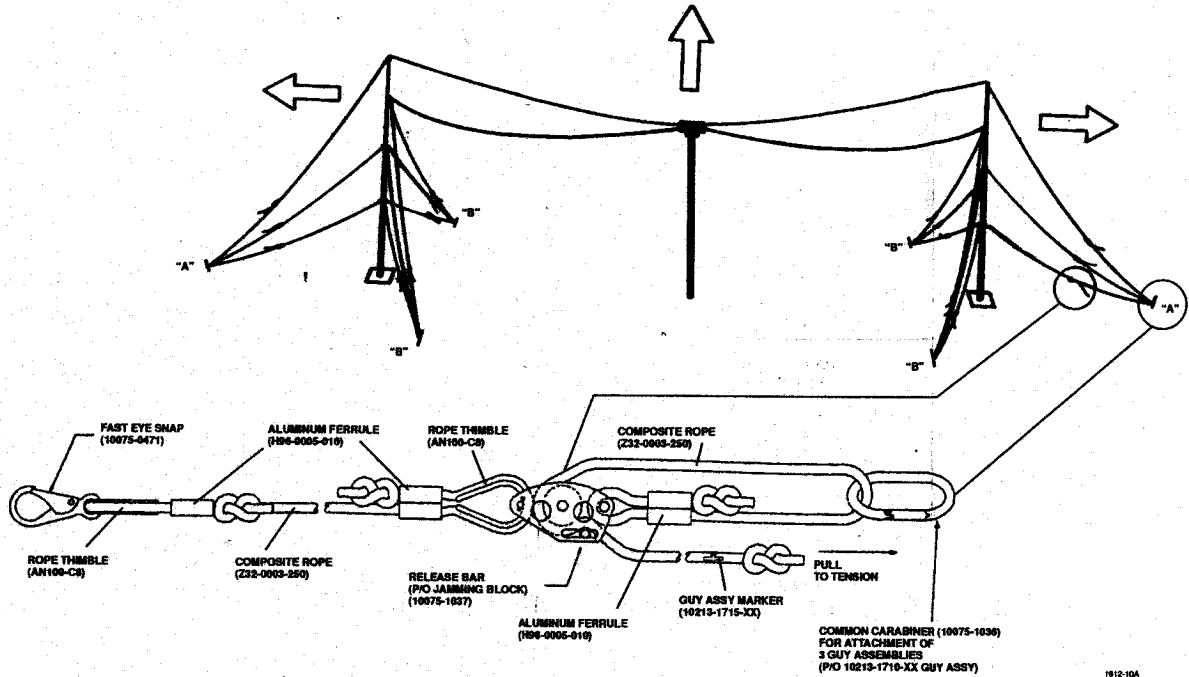
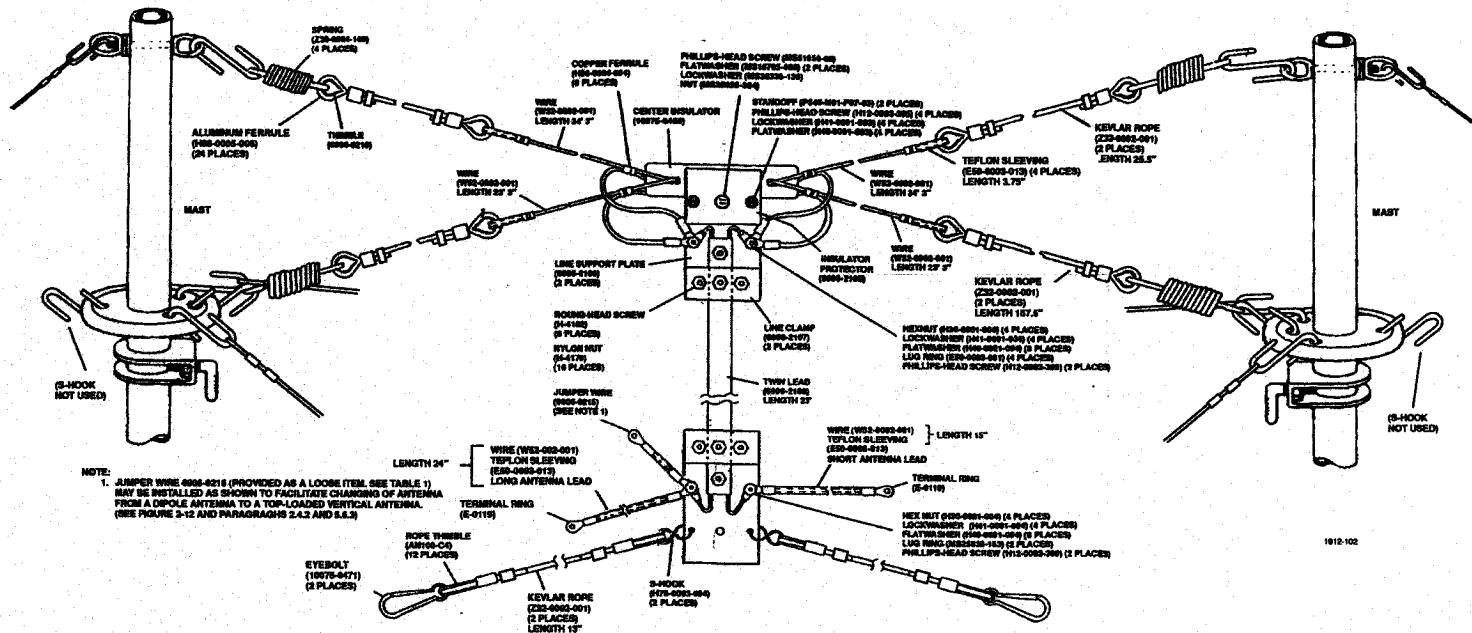

Figure 2-7. Guy Rope Tension Adjustment
Figure 2-8. Radiating Elements Attached to Masts
- 1. Unstow and carefully unwind the four Secondary Guy Assemblies (at points "B") and attach them to the masts, being sure to match the color and position (for Upper Guy attachment, see figure 2-8). Attach the common carabiners (see figure 2-7) to the guy stakes located at points "B".
- 2. Unstow and carefully unwind the two Primary Guy Assemblies (at points "A") and attach them to the masts, being sure to match the color and position. The common carabiners (see figure 2-7) will be attached to points "A" after mast erection.
- 2. Carefully unwind the radiating elements and attach them to the masts, being sure to match the color and position. The lower radiating elements should be between two adjacent S-Hooks (see figure 2-8). Be careful not to tangle these radiating elements with each other or any of the guy ropes.
- p. Attach the common carabiner of the Primary Guy Assemblies to the guy stakes at points "A". See figure 2-7.
- q. Adjust guy rope tensioning devices to pull radiator snug, and remove excessive sag from radiator. (See figure 2-7.)
- c. Disconnect and remove the longer of the two wires from the terminal strip at the bottom of the feedline. Use wire jumper supplied (6906-0215) to connect these two screws together. See figures 2-8 and 2-12.